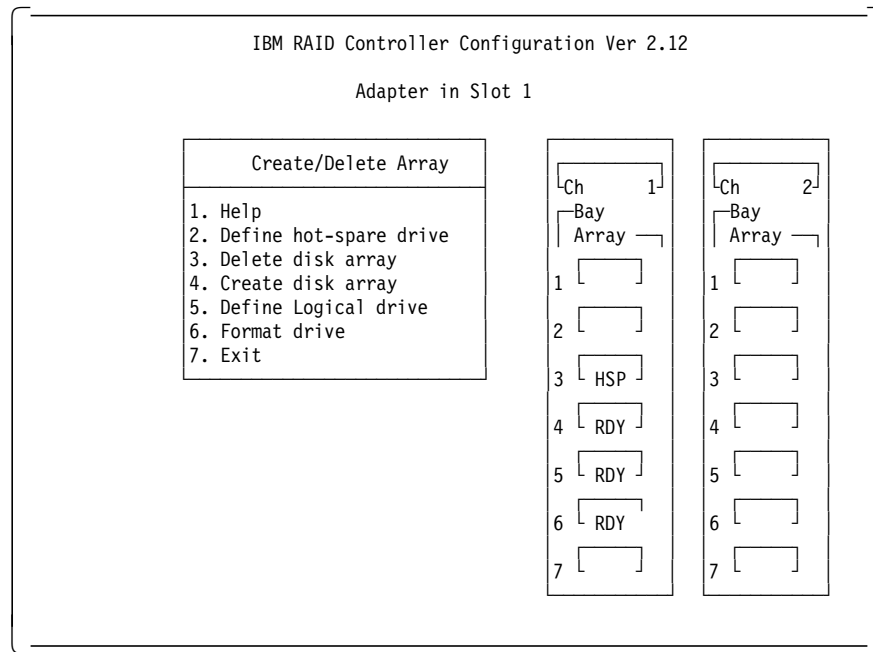

Figure 34. RAID Configuration Program - Hot-Spare Disk Definition
2. Use the up and down arrow keys to select the RDY (ready) drive to be used as a hot-spare and press Enter. The RDY status changes to HSP (hot-spare). Figure 34 on page 43 shows an example where a hot-spare disk has been defined.